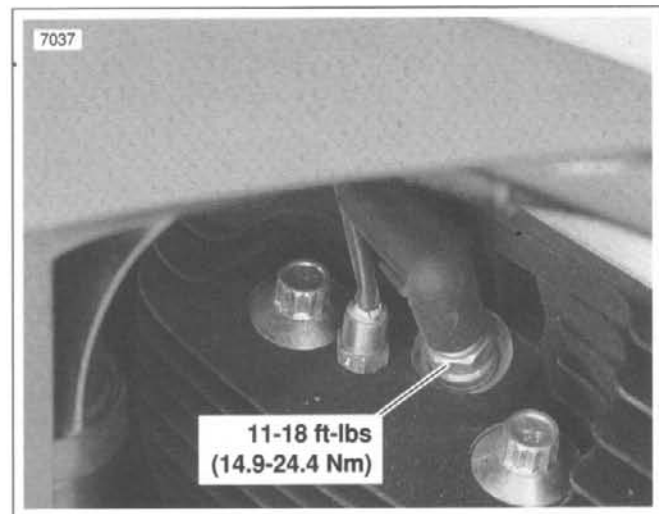

Figure 1-61. Spark Plugs
8. See Figure 1-61. Apply LOCTITE ANTI-SEIZE to plugs. Install and tighten to 11-18 ft-lbs (14.9-24.4 Nm).